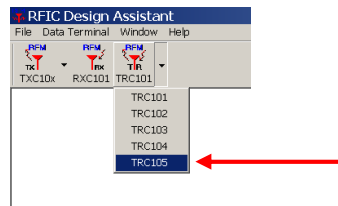
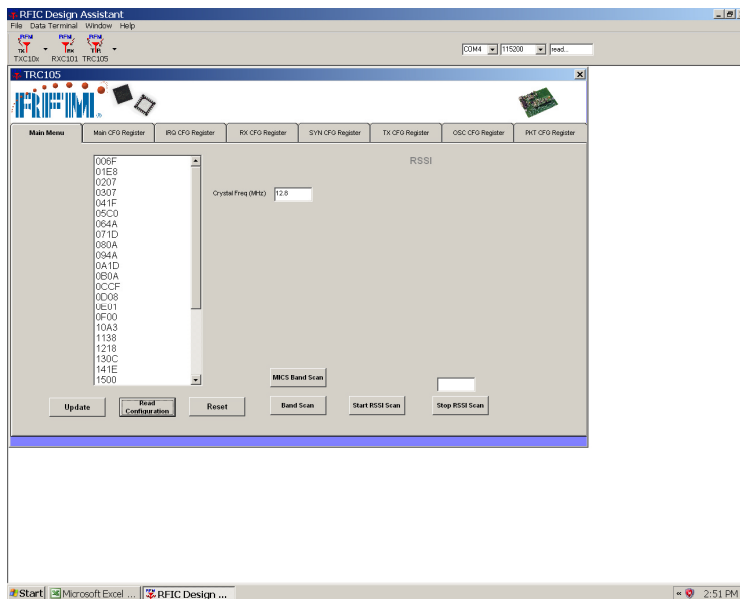

Figure 8 - Selecting TRC105 Operation
Figure 9 - Read Configuration Test
5. Select the TRC105 from the TRC drop-down menu as shown in Figure 8. This will launch the TRC105 multi-tab dialog window as shown in Figure 9
6. Select the *Main Menu* tab and click on the *Read Configuration* button. A hex dump of the current TRC105 configuration parameters should appear in the text box above the button as shown in Figure 9. This confirms the development board set is communicating with the utility program. Test the other development kit board set in the same manner. The development kit is now ready to use.